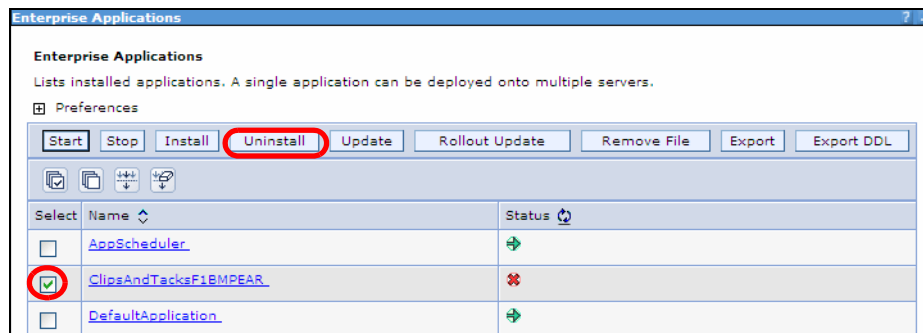

Figure 14-51 Monitor model undeployment: Uninstall the application
- ▶ Select the check box next to the monitor model application `ClipsAndTacksF1BMPEAR` and click *Uninstall* (Figure 14-51).